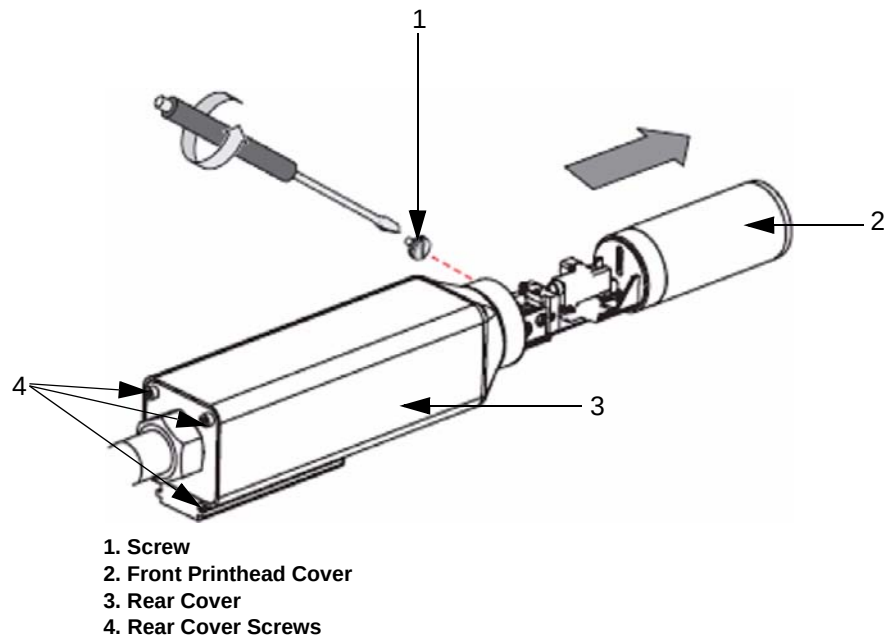

Figure 7-11: Front Printhead Cover Removal
- 4 Detach the front printhead cover (Item 2, Figure 7-11) and retain the screw (Item 1).
- 5 Remove the three rear cover screws (Item 4, Figure 7-11) and remove the rear cover (Item 3).